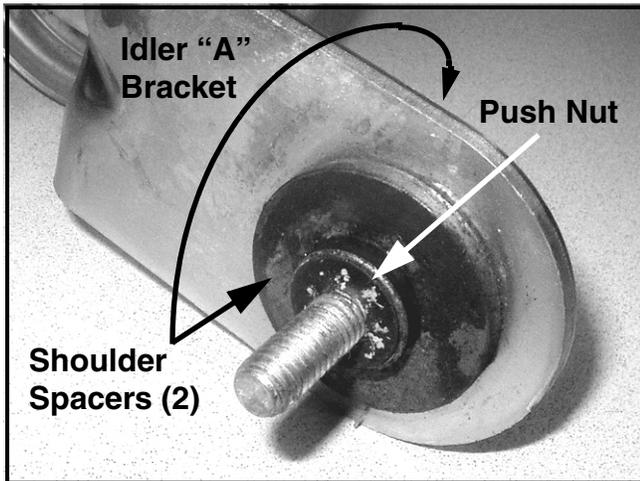

FIGURE 3
7. Refer to Figure 3. With a thin flat blade screw driver and pair of long nose pliers, remove and discard the push nut(s) retaining the 3/8"-16 x 1.75" bolt and shoulder spacers to Idler "A" bracket. Discard the push nut(s) and idler bracket. Retain the bolt and shoulder spacers.